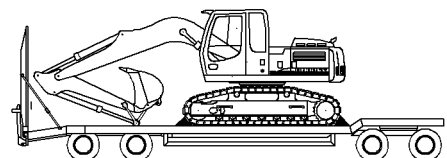

Fig. 3-136 Transport position - machine
- ▶ Rotate the upper carriage carefully 180° (direction of travel over leading wheel) and lower the equipment (siehe Fig. 3-136).